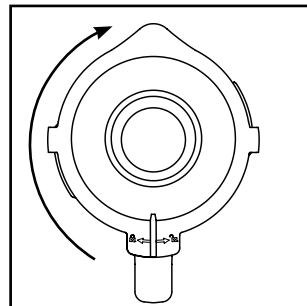

Fig. 2
4) Press the lid **2** firmly down onto the blender **3**. Close the lid **2** by turning it clockwise to position  until it audibly engages (see Fig. 2). Ensure that the pouring spout on the blender **3** is closed. The motor cannot start until the lid **2** is fitted flush.